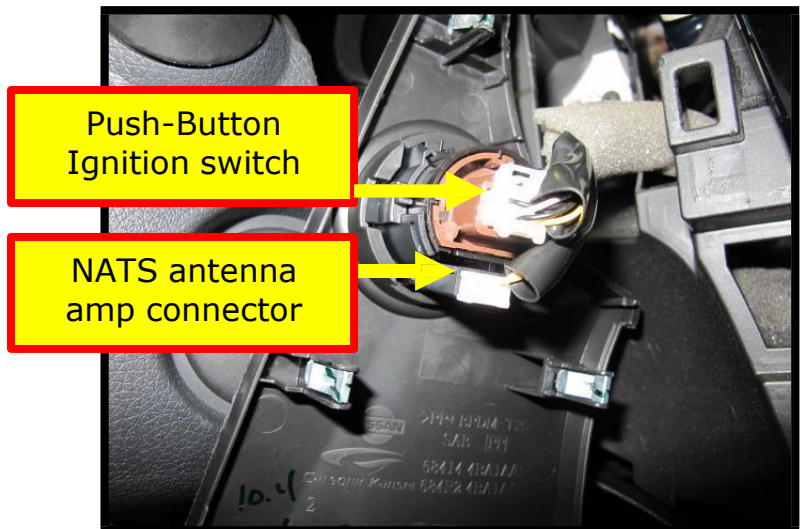

Figure 3
3. Disconnect Push-Button Ignition switch and NATS antenna amp connectors from Instrument Finisher B assembly as shown in Figure 3.